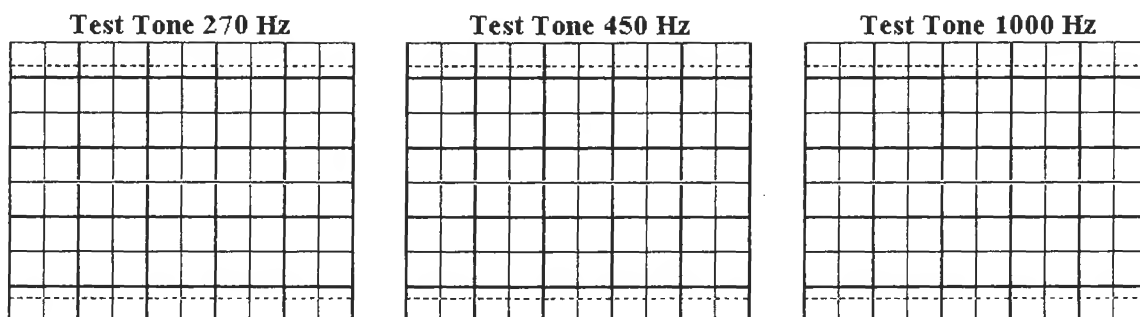

Figure L49-17
7. Adjust the voltage output and redraw each of the tones at 50 mV on the scope faces provided in Figure L49-17.